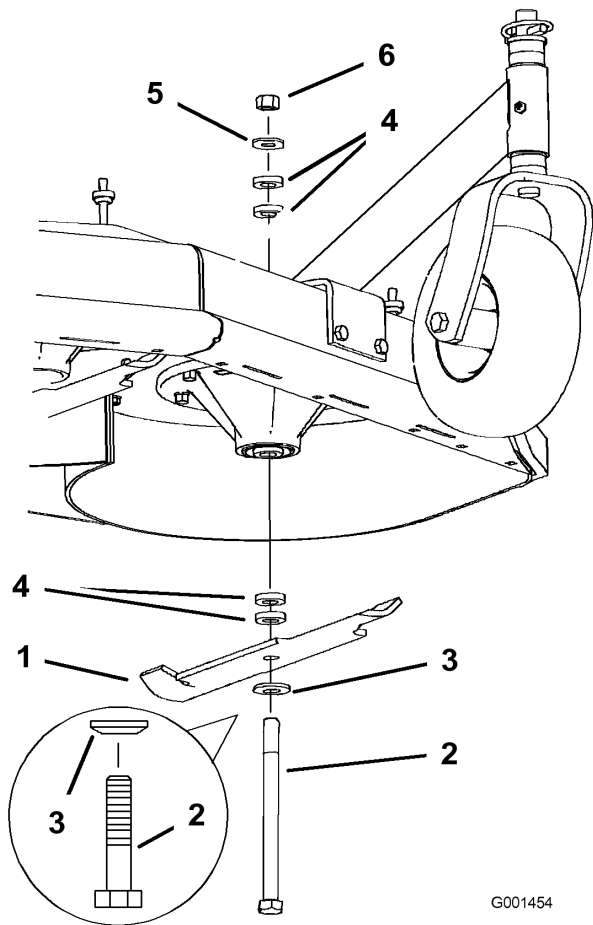

Figure 48
- Remove the nut, blade bolt, curved washer, blade, spacers, and thin washer from the spindle (Figure 48).
1. Place the blade onto the bolt and over the cone washer. Select the proper number of spacer(s) for the height-of-cut, and slide the bolt into the spindle (Figure 48).